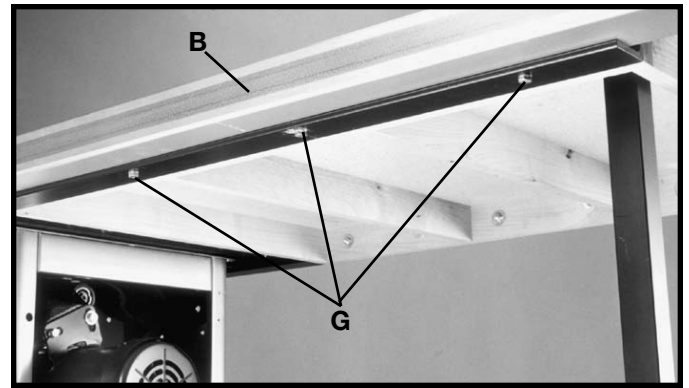

Fig. 98
2. Position the guide tube (B) Fig. 98, on the front rail and fasten the guide tube to the rail using the 1/2" long hex screws (G) and lockwashers in all of the holes.